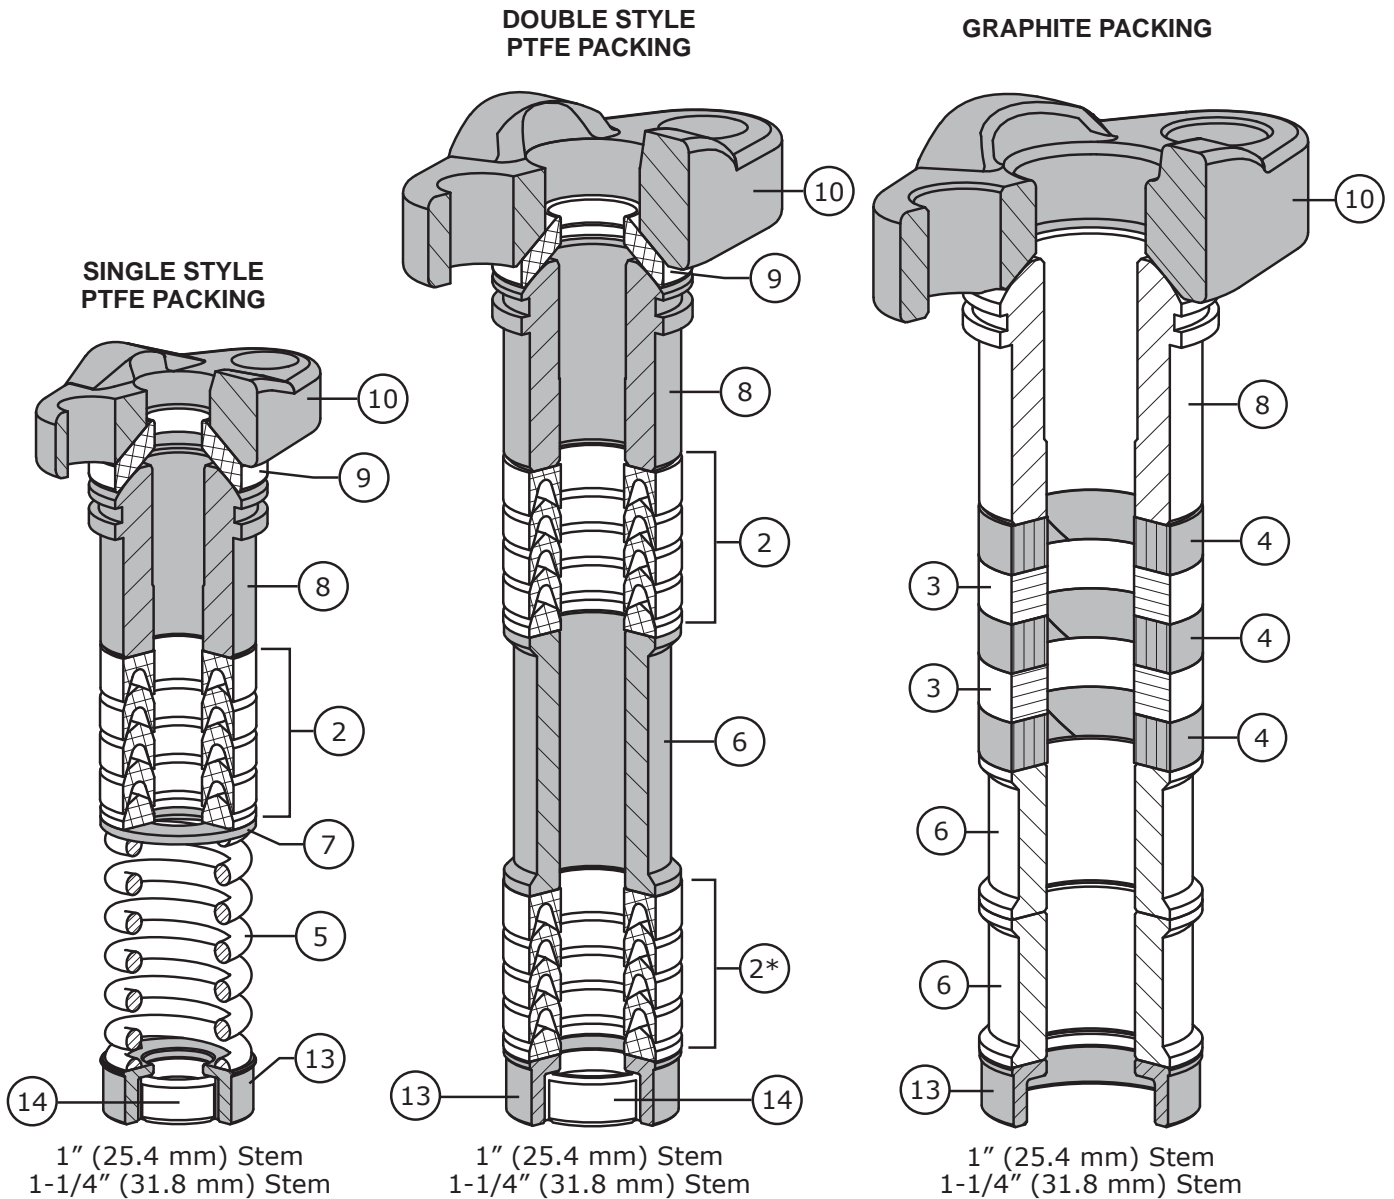

Figure 8 Control Valve Packing Diagrams
Refer to Figure 8 for packing orientation and Key numbers for the following section. For live loaded packing instructions refer to the P-LLPS manual.
- A Refer to Figure 8 for single and double packing arrangements. Choose proper arrangement based on stem size and single or double configurations. Install bonnet as described in the Assembly section. Install packing box ring and packing arrangement as shown. Note that Key 4 is graphite filament wound material that typically looks like rope. Key 3 is graphite ribbon compressed into rings and not split as the graphite filament ring is. Install packing follower (Key 8) and flange (Key 10) and torque as per Table 5.